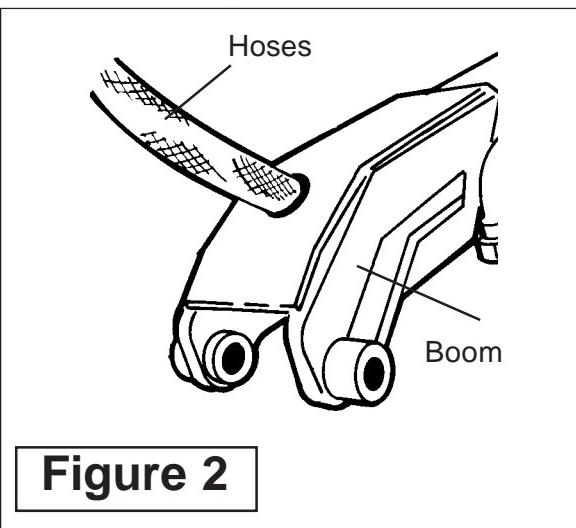

Figure 2
1. Hoses on Booms are shipped folded back inside Boom. Hoses must be pulled out and moved to clear, then routed in the end of Boom before installing Boom on the King Post (**See Figure 2**)